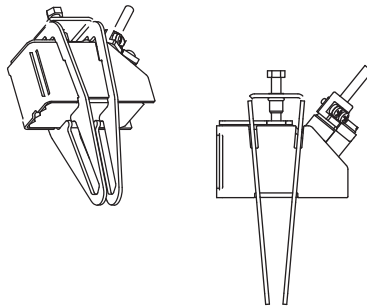

Fig. 3.8: Transducer in transducer clamping fixture
- Push the transducer in the transducer clamping fixture (see Fig. 3.8).